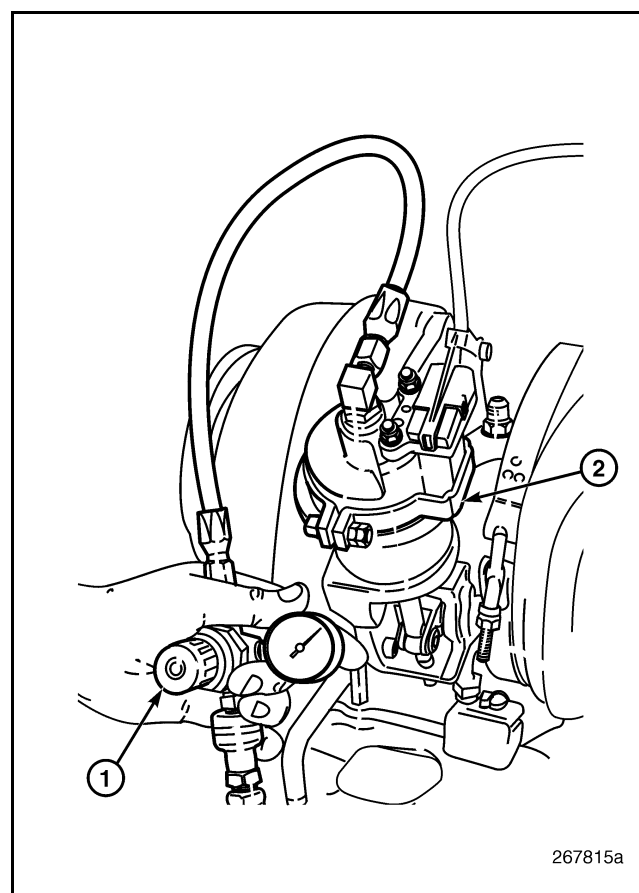

Figure 520 — Air Pressure Application
2. Connect a shop air pressure line to the air fitting at the top of the actuator assembly (Figure 520) and apply 40–60 psi air pressure to extend the actuator rod downward.